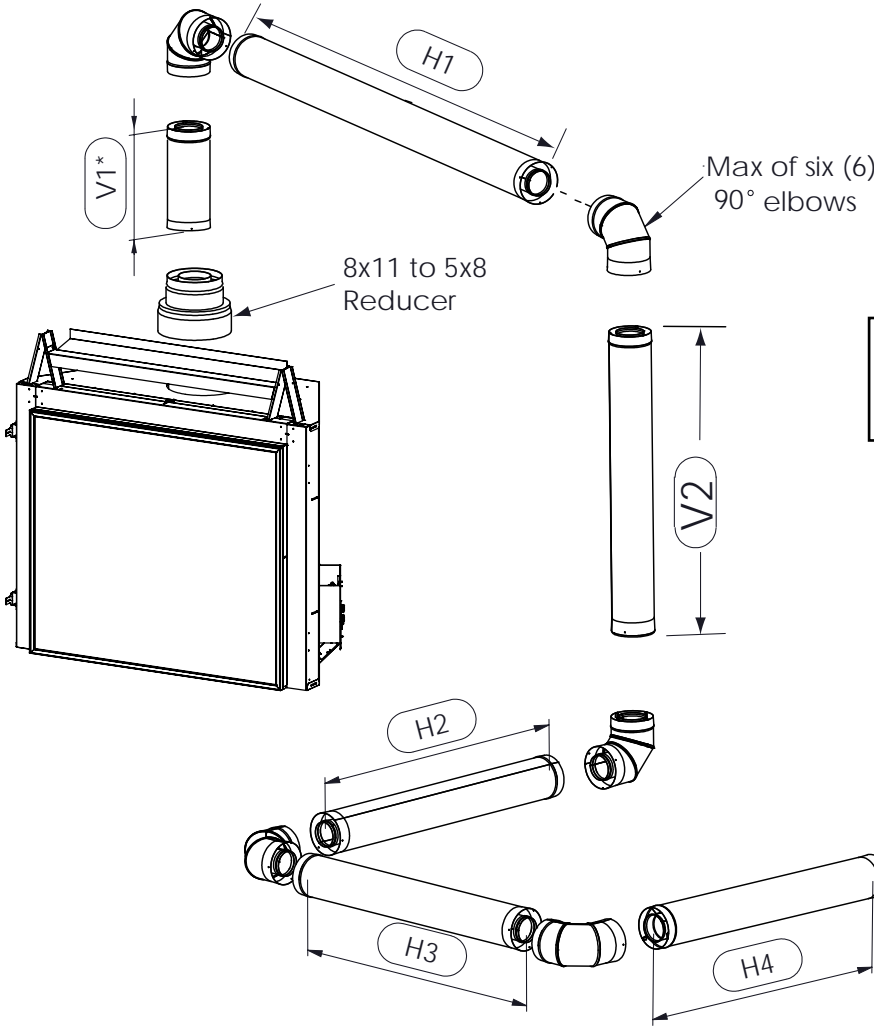

Figure 2: U55 Power Venting
- **Maximum total venting run allowed is 66 ft (m)** ($V_1 + H_1 + V_2 + H_2 + H_3 + H_4 + H_5$), refer to Figures 2. Note, linear lengths of vent count the same whether in the vertical or horizontal plane.
- **Maximum negative vertical run allowed is 4ft (1.2m)** as measured from the elbow where it started (see V2 in Figures 2).
- Multi-elbow installations are possible with a **maximum of six (6) 90° elbows** (two (2) 45° elbows is equivalent to one (1) 90° elbow)